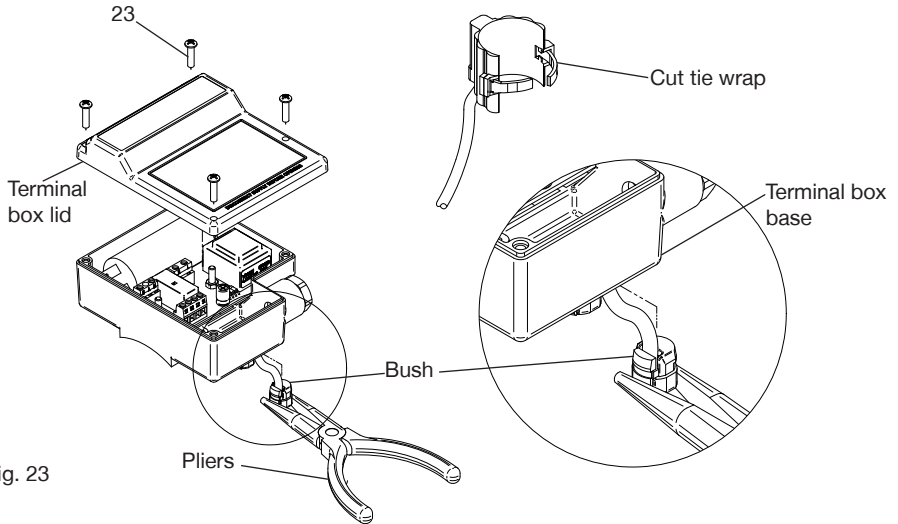

Fig. 23
- Remove the strain relief bush and reed switch cable by gripping with pliers (Fig. 23) and pulling downwards from the terminal box.
- Remove the existing reed switch by cutting the securing tie wrap and pulling away from the flow switch body (Fig. 23)